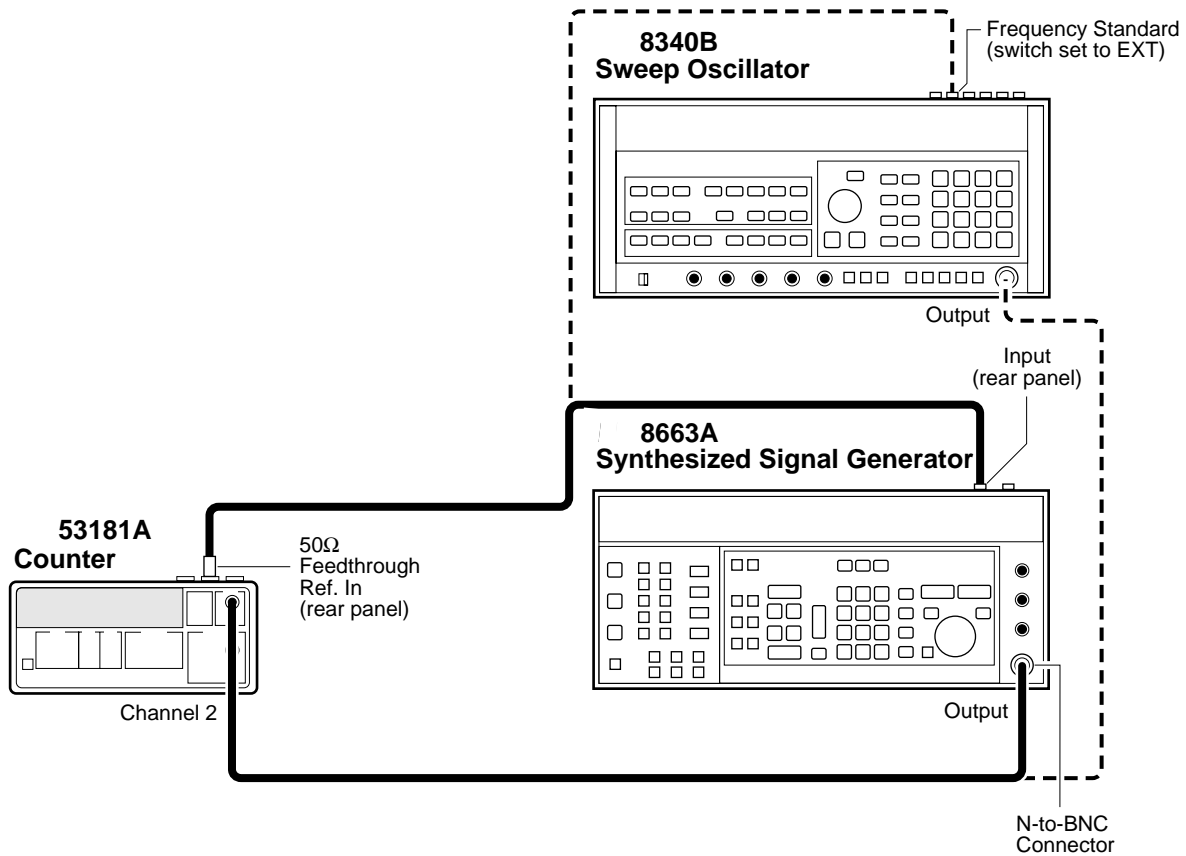

Figure 1-15. Option 015/030/050/124 Channel 2 Frequency Accuracy Test Setup
- 1 Connect equipment as shown in Figure 1-15.
- 1 Connect equipment as shown in Figure 1-15.**
- 5 Disconnect the Agilent 8663A output from Channel 2 of the Counter, and connect the Agilent 8340B Sweep Oscillator output to Channel 2 of the Counter as shown in Figure 1-15.**